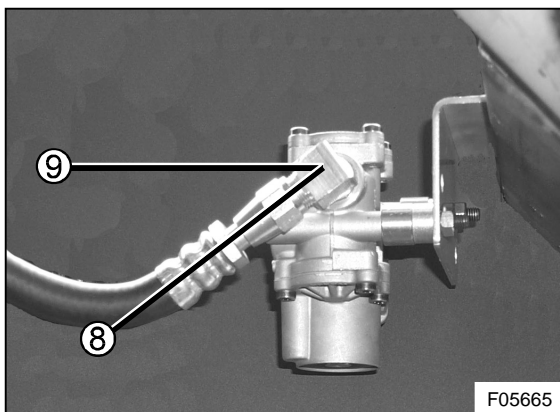

Figure 24: Port #2 elbow stud connector of right hand ABS valve in 8 o' clock position
- The connector of the right hand ABS valve should be in the 8 o' clock position (35° down from the horizontal). Refer to Figure 24.